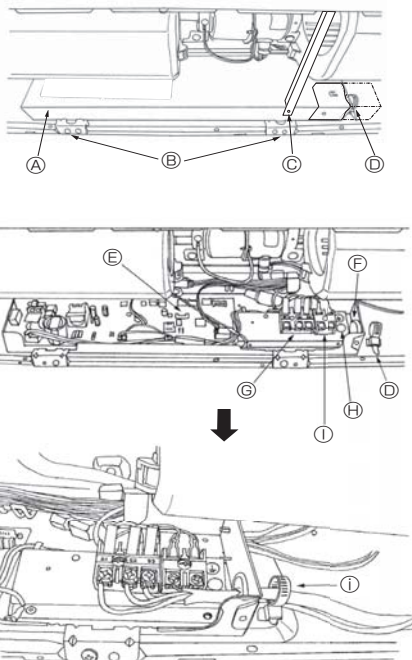

Fig. 6-1
1. Remove the tapping screw ③ then remove the beam.
2. Remove the (2) tapping screws ② then remove the electric part cover ①.
4. Connect the electric wires securely to the corresponding terminals (Fig. 6-1)